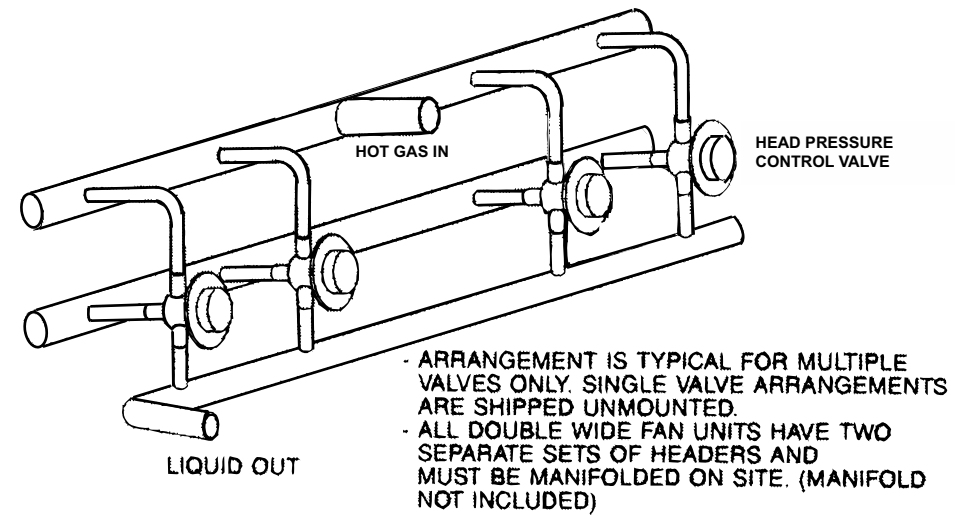

FIGURE 6: 4 valve arrangement shown. Valve quantity may vary from 2 to 10.
(2) See Figure 6 for pipe arrangement of multiple valve systems.
(3) Pressure difference between discharge line and receiver.
(4) When ordering a flooding control package, specify refrigeration type by adding the refrigerant code to the valve model number. R-22 = 2, 134a = 1, R-502 = 2 (Example: C-2).